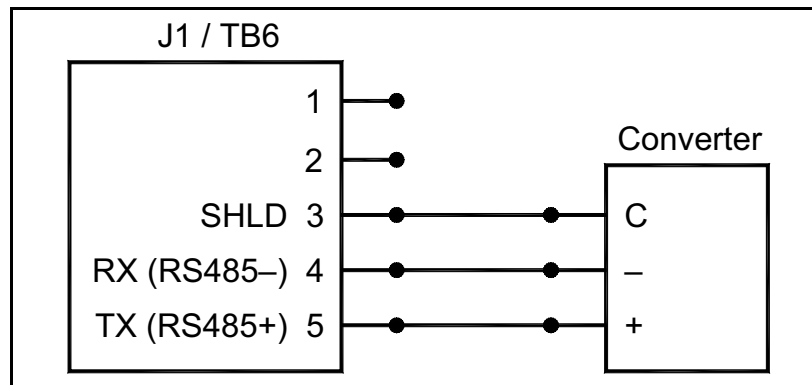

Figure 14: Typical RS485 Connections
3. Feed one end of the cable through the conduit hole, wire it to terminal block J1 and secure the cable clamp. Connect the other end of the cable to the converter, as shown in *Figure 14* below.